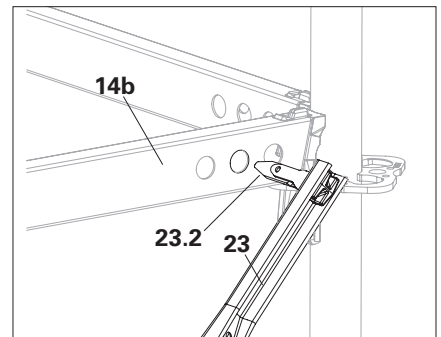

Fig. A4.07d
4. Insert the tilt finger into the hole of the upper horizontal ledger (**14b**). (Fig. A4.07d)